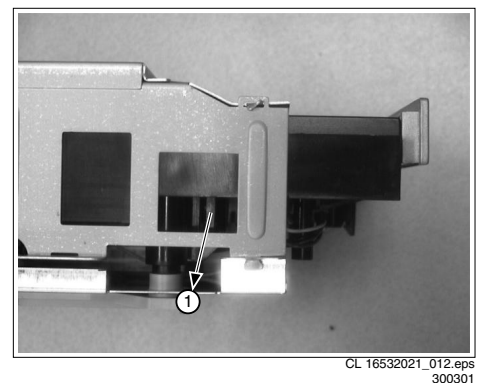

Figure 4-4
- Press the DVD-tray release-catch [1] and slide the DVD tray forward, **Fig. 4-4** (be sure to push it in far enough, a screwdriver might be needed).